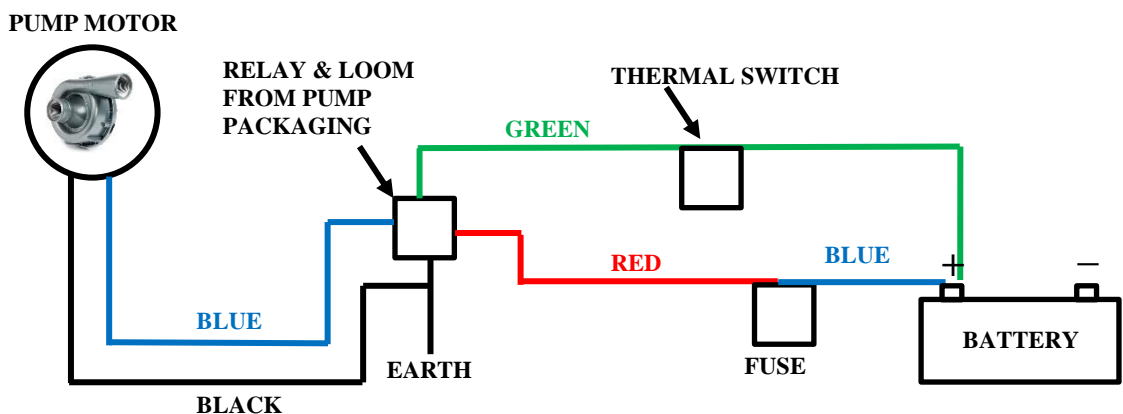
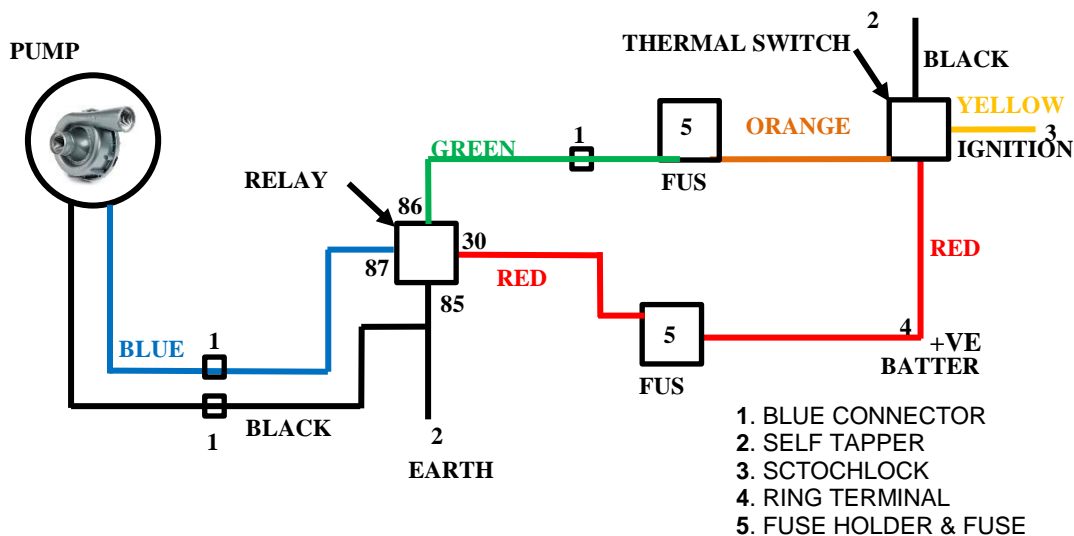

Figure 1: Wiring Diagram: EWP® With Thermal Switch - Part #0401
Figure 2: Wiring Diagram: EWP® with Thermal Switch - Part #0444
1. Install the Thermo Switch (Part #0401 or Part #0444) - Refer Wiring Diagrams (Figure 1 and Figure 2) below.